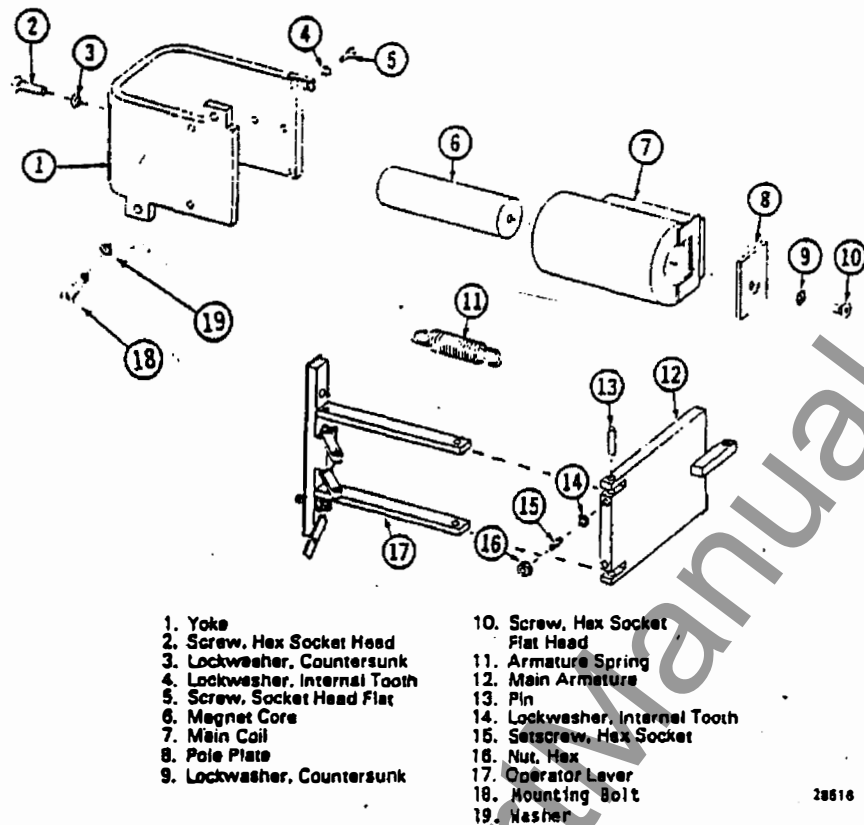
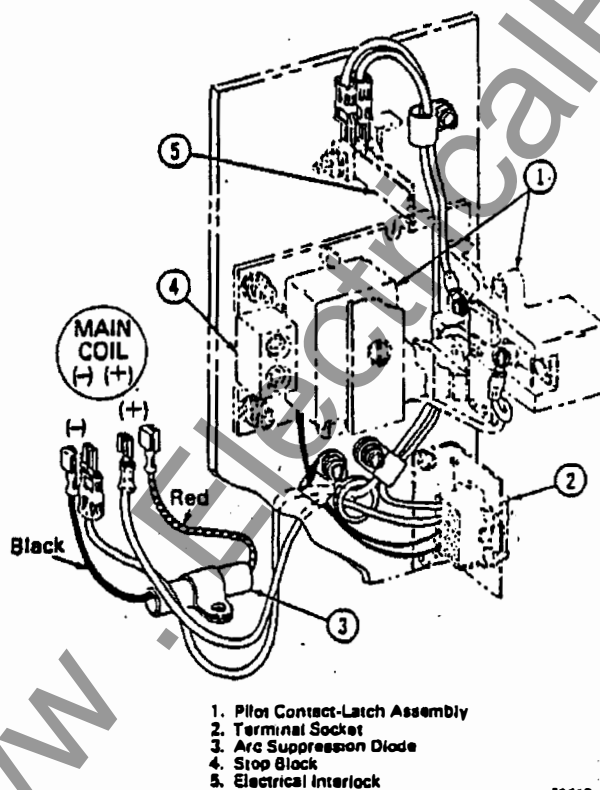

Fig.20 - Main Coil Assembly, Exploded View
Fig.21 - Wiring Pictorial Diagram
1. Loosen hex nuts (16, Fig. 20) and back out two setscrews (15) and remove pins (13).
If difficulty in removing the magnet coil (7) from the magnet core (6) is encountered; the coil and core may be removed as an assembly by removing core mounting bolt (2, Fig. 20). The magnet core may then be removed from the core by suitable means, or the entire assembly may be replaced.
1. Insert new main coil (7, Fig. 20) and replace electrical leads. Polarity MUST be as shown in Fig. 21.
2. Reposition pole plate (8) and secure using lockwasher (9) and screw (10).
3. Engage armature spring (11) between frame and main armature (12).
4. Reposition main armature (12) and secure to yoke (1) with lockwashers (4) and screws (5).
5. Align holes in main armature (12) with holes in ends of operator lever (17) legs and insert pins (13). Secure pins (13) with setscrews (15) and secure setscrews (15) with lockwashers (14) and hex nuts (16).
4. Loosen two screws (18, Fig. 20) securing the yoke (1) to the frame. Position yoke (1) and main armature assembly (12) so that the main contacts, just touch or have a maximum gap of 0.13 mm (.005"). Secure yoke (1) to frame tightly with the two screws (18).
4. De-energize the main coil and disconnect the power supply leads. Replace the contactor leads that were removed from main coil. Ensure polarity is as shown in Fig. 21.